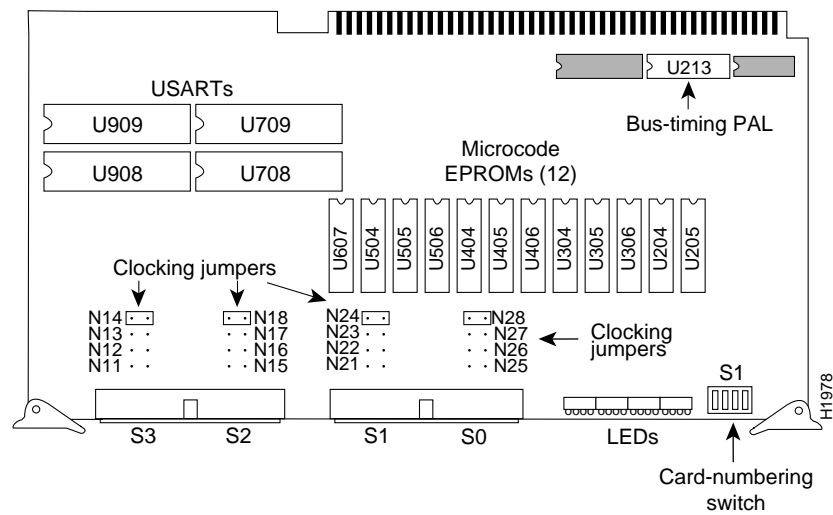

Figure 1     SCI Card—Component-Side View
The SCI card provides its serial interface ports on two 50-pin connectors. Each connector supports two synchronous serial ports. (On the three port version of the card, the second port on the second connector is disabled.) The 50-pin cable that attaches to the connector is split so that appliques of varying types can share the same cable. Figure 1 illustrates the numbering scheme for the four serial ports (labeled S0 through S3 from right to left).
- Step 3** Select the card number by setting the appropriate dual inline package (dip) switch at location S1. (See Figure 1.) See “Card Numbering” on page 8.